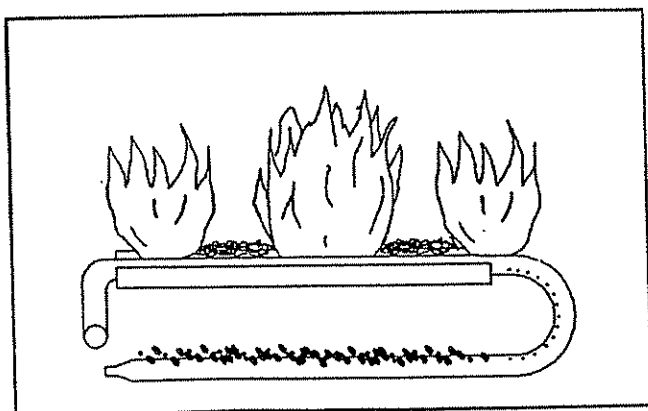

Fig. 35. Flame patterns.
3. Visually inspect pilot. Brush or blow away any dust or lint accumulations. If pilot orifice is plugged, disassembly may be required to remove any foreign material from orifice or tubing. When appliance is put back in service, check flame patterns with Fig. 35.